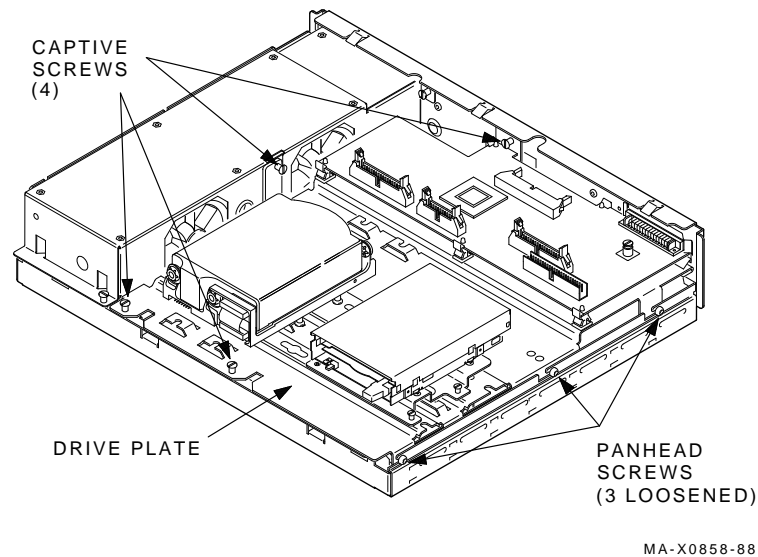

Figure 6-6 Drive Plate Screw Locations
1. Position the drive plate on the system box (Figure 6-6), making sure that the MSC cable is not trapped under the drive plate.